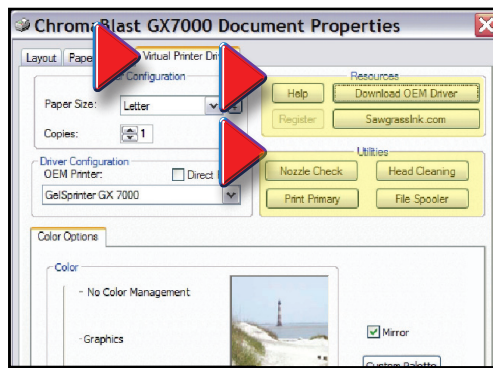

Figure 12
7. The **Resources and Utilities** group (Fig 12), **Resources**, includes a **Help** selection and other helpful resources, including a link to update your **Ricoh** driver (**Download OEM Driver**). In **Utilities**, this group includes the following options :